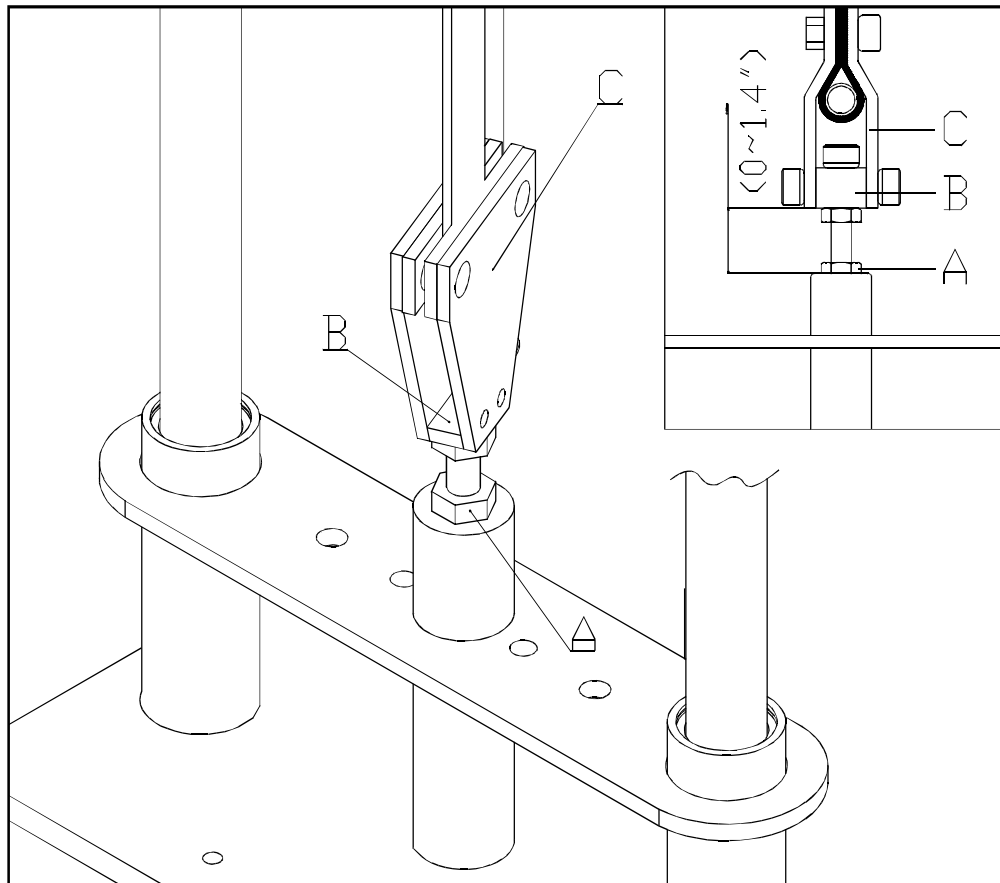

Fig.1
2. The gap between nut A and B must be within 35mm(1.4"). If the gap exceeds 35mm, please loosen up the screws on and adjust the belt to the proper length. Tighten up the screws and follow the 1st step again.(See Fig.1)